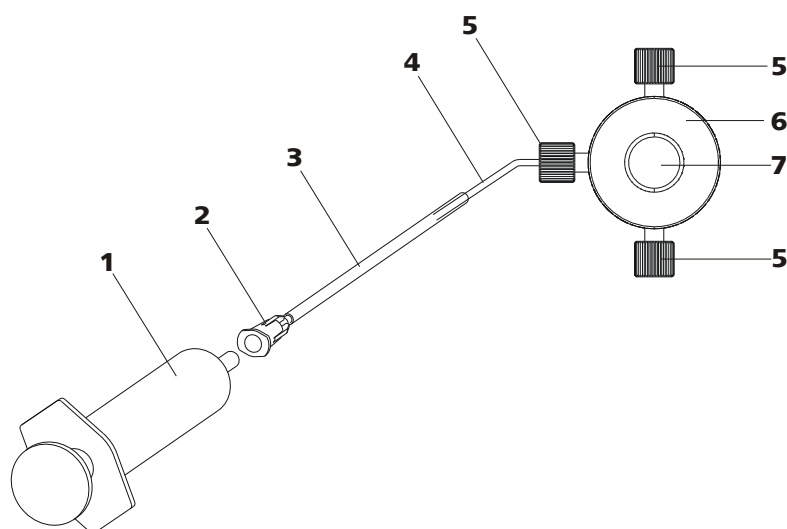

Figure 18 Deaerate the high pressure pump
Deaerate the high pressure pump as follows (see figure 18, page 32):
- Insert syringe (18-1) in the Luer connector (18-2) of the purging needle (see figure 18, page 32).